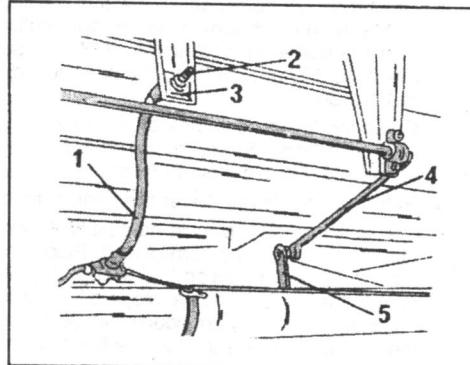

Fig. 7.7. — The items shown must be disconnected during removal of the rear axle.
- Follow the routing of the brake pipe and separate the connection between brake line and brake hose. First unscrew the union nut and pull out the pipe end. Immediately protect the open end in suitable manner (sticky tape). Knock out the spring plate and remove the hose fitting out of the metal bracket. Again protect the open hose end by closing it off. Fig. 7.7 shows the fitted hose.
- Also referring to Fig. 7.7 disconnect the operating linkage for the brake pressure regulator (4) from the lever (5) at the position shown.
- Unscrew the nut from the end of the handbrake cable (1) at the equaliser lever connection and disengage the cable at all attachment points.